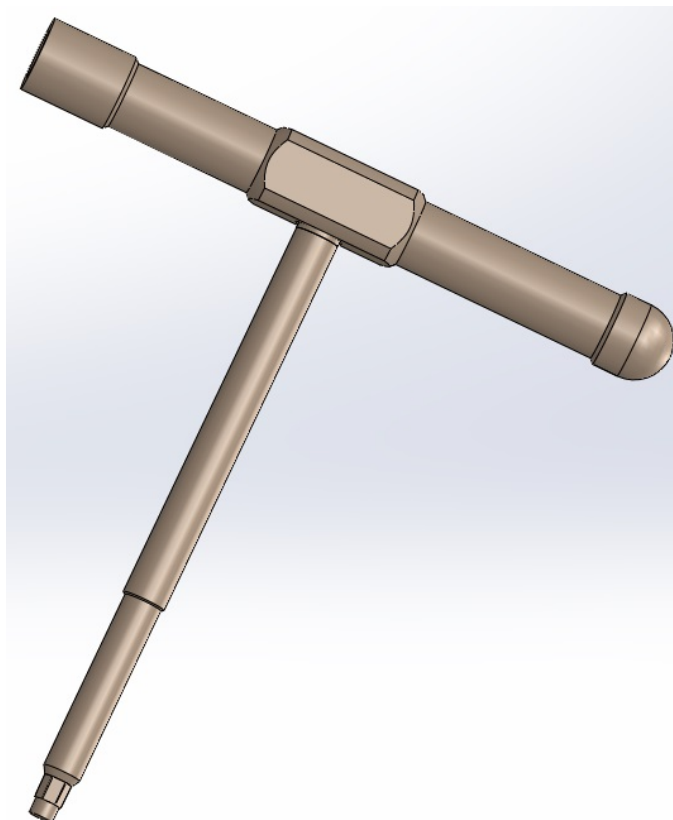

Figure 3 - Handle and Driver in the "T" configuration
7. Orient the Handle in an orthogonal direction to the Driver, and insert the Driver's Oval feature into the mating slot in the Handle. The T-handle configuration is shown in Figure 3.